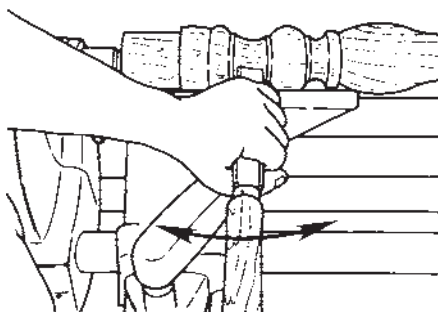

Figure C-47
b. Cut the coves. Feed a gouge slowly into the stock, then move the handle of the tool from side to side to shape the cove. See Figure C-47.